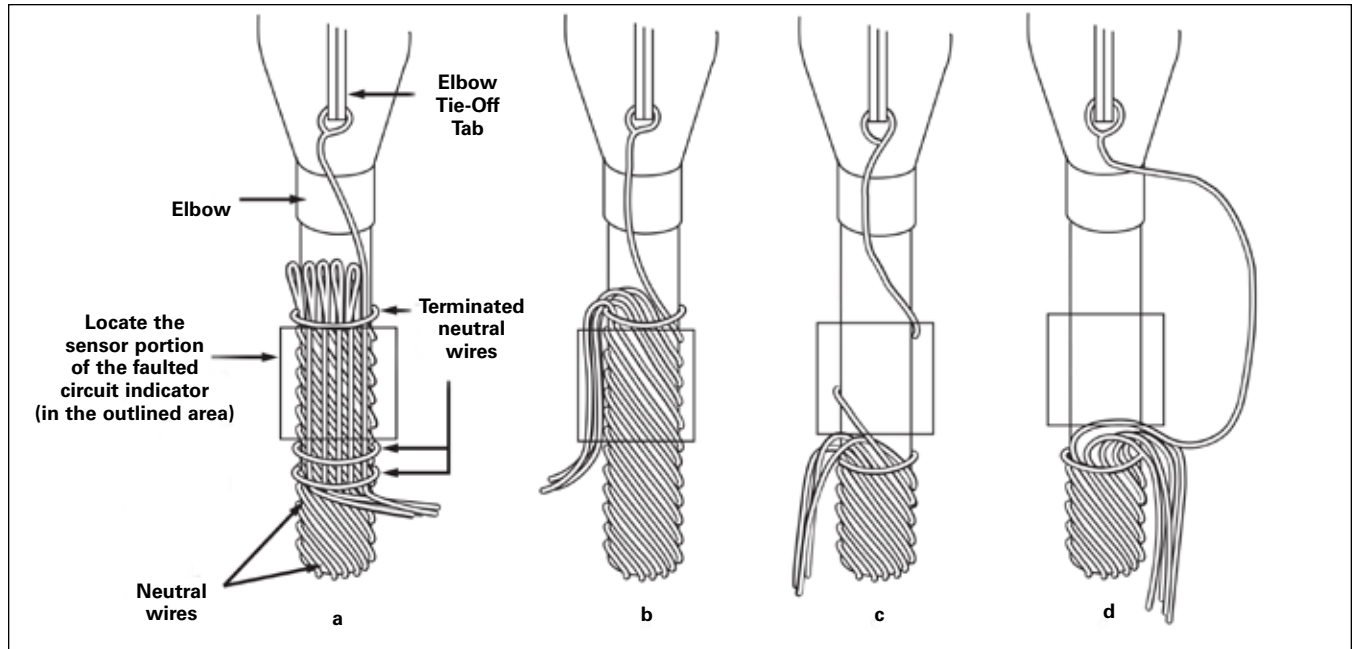

Figure 4. Recommended methods of concentric neutral primary cable preparation
Method 1 (Refer to Figure 4-a)
Method 2 (Refer to Figure 4-b)
Method 3 (Refer to Figure 4-c)
Method 4 (Refer to Figure 4-d)
3. **Push the sensor onto the cable below the elbow at a location shown in Figure 4 while holding the sensor shotgun stick horizontal.** The sensor triggering mechanism will release the clamping arms and securely attach the device to the cable.
7. **Push the sensor onto the cable below the elbow at a location shown in Figure 4 while holding the shotgun stick vertical.** The sensor triggering mechanism will release the clamping arms and securely attach the device to the cable.